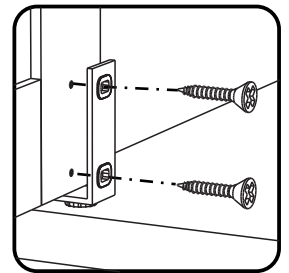

Figure 15
Attach Doors (N) and (O) to unit with Wood Screws into pre-drilled holes. (See Figure 15)